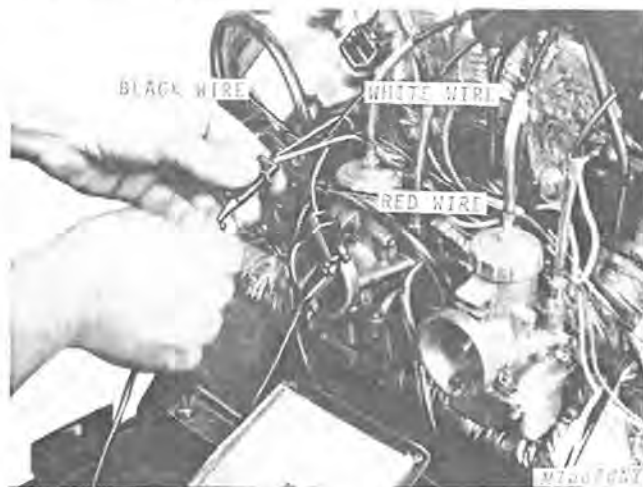

Fig. 2-Testing Trigger Assembly
2. Connect the ohmmeter leads between the red wire terminal and the white wire terminal of the two wiring harness plugs, Fig. 2. The ohmmeter should indicate from 100 to 300 ohms.